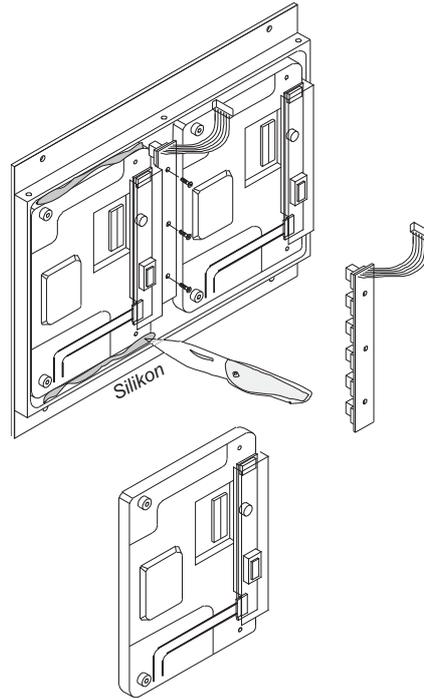

Fig. E 8-17: Disassembling a broken display (removing silicone)
9. Carefully but totally remove the silicone strips from the broken display. Take out the display (Fig. E 8-17).